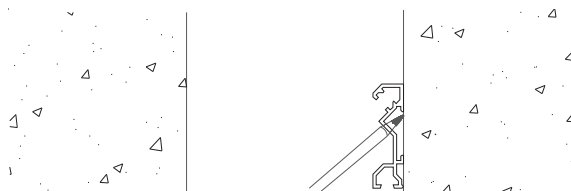

Figure 3
STEP 5. Using the base member as a template, mark the locations for the anchor holes on the substrate, see Figure 3.